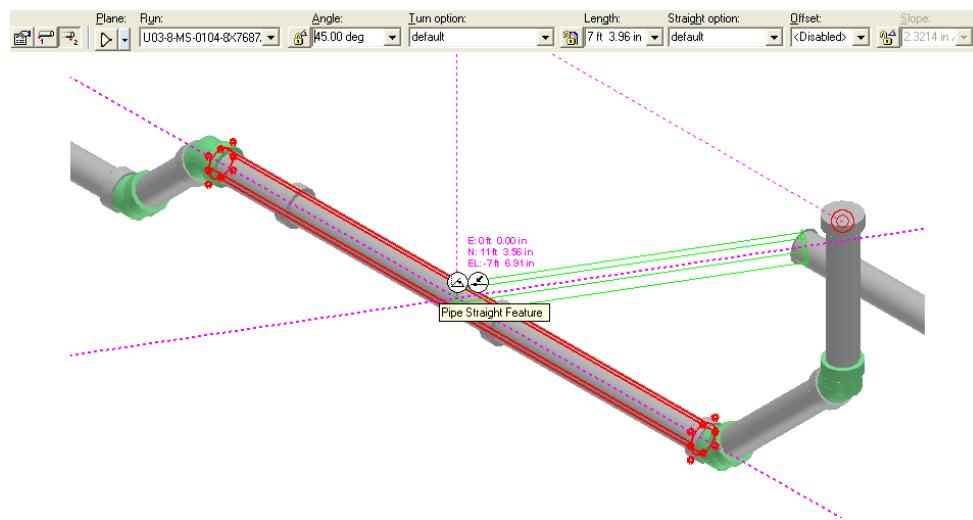

Figure 46: Point on Curve Glyph
82. Position the cursor point along the lateral pipeline. SmartSketch will display a point on curve glyph, as shown in Figure 46.